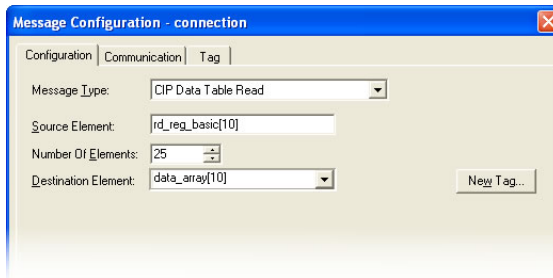

Figure 97: MSG Instruction Configuration
- b) Click the message configuration button (“...”) in the MSG instruction. The “Message Configuration” window will open. Refer to Figure 97.